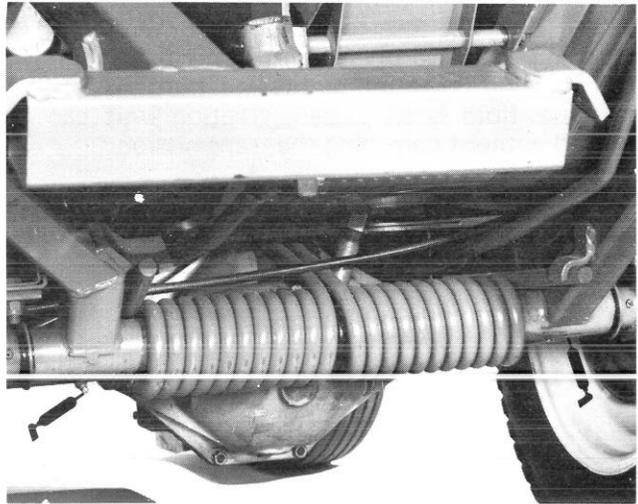
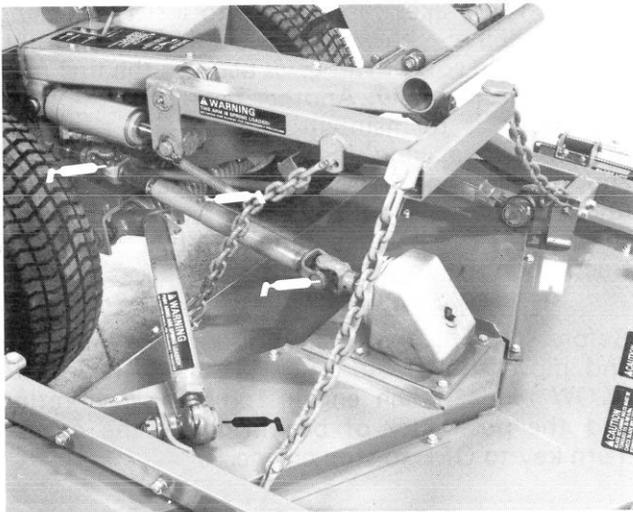
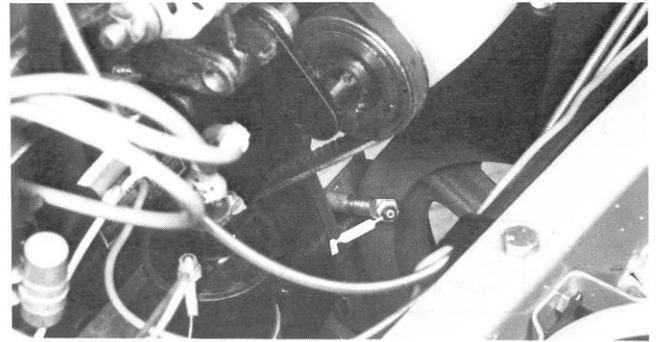

Figure 26
Figure 24
Figure 31
1. The traction unit bearings and bushings that must be lubricated are: PTO shaft and yokes (Fig. 24); lift arm pivots (Fig. 25); right and left push arm ball joints (Fig. 24); push arm pivot bushings (Fig. 26); steering gear (Fig. 27); PTO pivot housing blocks (Fig. 28); brake pivot bushings (Fig. 29); rear wheel spindle bushings (Fig. 30); steering plate bushings (Fig. 30); axle pin bushing (Fig. 30); and engine output shaft bearing (Fig. 31). Also apply grease to both brake cables at the drive wheel and brake pedal ends.